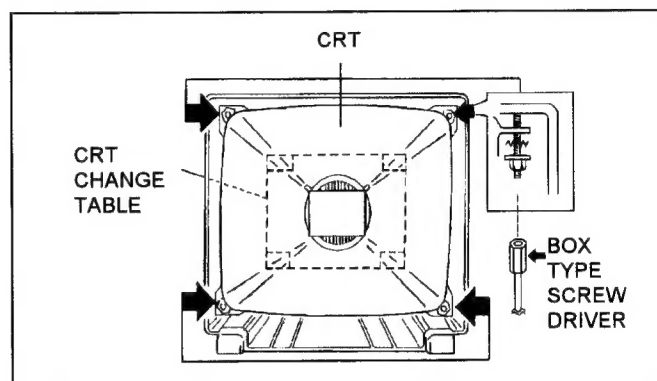

Fig. 4
- 2. While keeping the surface of CRT down, mount the TV set on the CRT change table balanced will as shown in Fig.4.
- 3. Remove 4 nuts marked by arrows with a box type screw driver as shown in Fig.4.